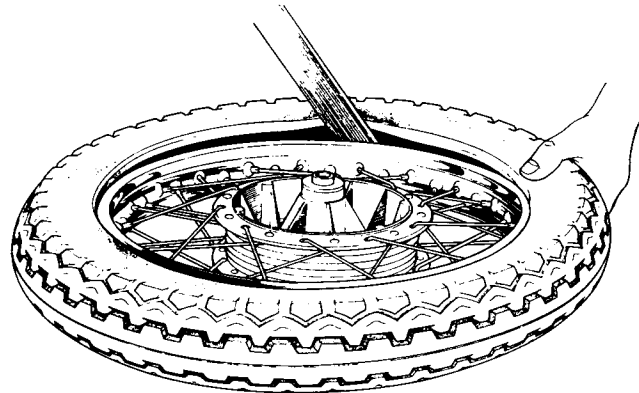

Fig. H23 Careful levering of second bead over wheel rim
- 8 As shown in *Fig. H23*, taking care to avoid "nipping", lever the last portion of the beading over the rim, finishing at the valve.